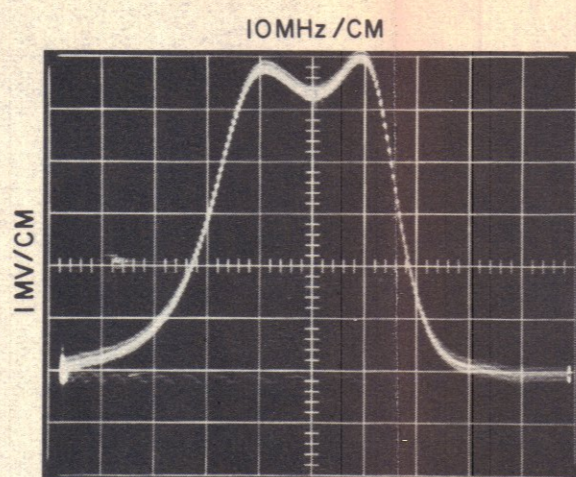
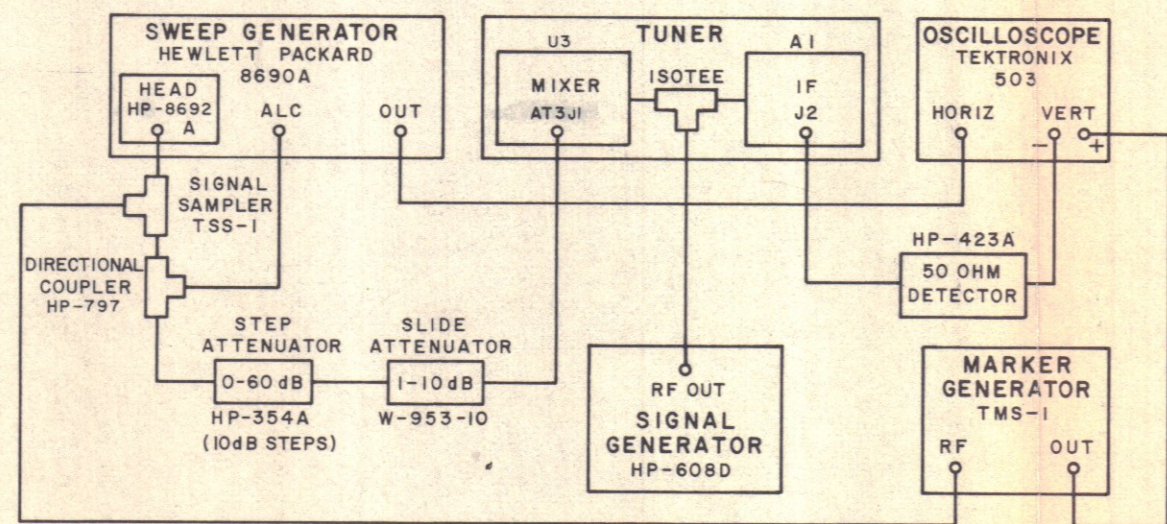
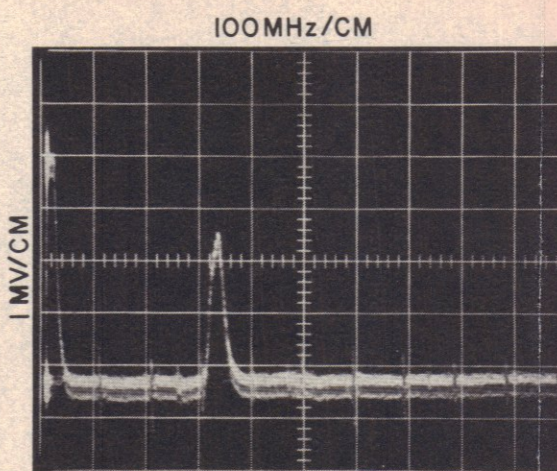

Figure 4-1c. Typical Response, IF Preamp
Figure 4-1b. Equipment Connections, Mixer, LO, IF Preamp (YIG Filter Bypassed)
Figure 4-1f. Typical Band Response, VFO to Tape Dial Tracking
- (1) Connect the equipment as shown in Figure 4-1b, page 4-12.
- (2) Set the sweep generator controls for a 2100 MHz  $\pm$  100 MHz sweep. Tune the TH-245B to 2100 MHz and adjust the oscilloscope and microwave attenuator controls to obtain a suitable display.
- (3) Set the HP-608 for 160 MHz markers and the TMS-1 for 10 MHz markers.
- (4) Adjust A2C11, A2C9, A2C16, and A2C22 for a maximum amplitude symmetrical response centered about the 160 MHz marker. A typical response is shown in Figure 4-1c, page 4-12.
- (5) The bandwidth should be a minimum of 22 MHz and a maximum of 25 MHz at the 3 dB points.
- (6) Tune the sweep generator and TH-245B simultaneously throughout the band and note the response variation. If excessive tilt occurs anywhere in the 2-4.5GHz band, a slight compromise in the settings of step (4) adjustments should be used to obtain the flattest overall response.
- (2) Tune the TH-245B to 2000 MHz and carefully loosen the setscrews in the flexible coupling which connects the VFO to the gear train.
- (3) Adjust the sweep generator controls to sweep from 2 to 4.5 GHz and the oscilloscope and attenuators to display a response similar to Figure 4-1f. Set the TMS-1 for 100 MHz markers.
- (4) Identify the response that is lowest in frequency. Without moving the tape dial from 2000 MHz, carefully rotate the VFO tuning shaft and move the response to the 100 MHz marker representing 2000 MHz.
- (5) Set the sweep generator for a narrow sweep mode of 2000 MHz  $\pm$  100 MHz.
- (6) As in step (4), carefully center the response about the 2000 MHz marker. Figure 4-1c shows a typical response. Tighten the flexible coupling setscrews.
- (7) Adjust the sweep generator controls for a 4500 MHz  $\pm$  100 MHz sweep. Note the relationships between the displayed response and the 4500 MHz marker. If the response is not centered, loosen the setscrews in the flexible coupling and carefully rotate the VFO shaft to remove one half of the error. Tighten the setscrews. The tape dial to frequency error should be no more than 1%, i. e.,  $\pm$  45 MHz at 4500 MHz and  $\pm$  20 MHz at 2000 MHz. Errors in excess of this indicate a faulty VFO. With the end frequencies set correctly, the VFO to tape dial tracking should be satisfactory.
- (8) Verify the correct VFO to tape dial tracking at 200 MHz intervals throughout the band by identifying the correct marker, adjusting the sweep generator and TH-245B tuning to the correct frequencies, and noting the response to frequency marker relationships.